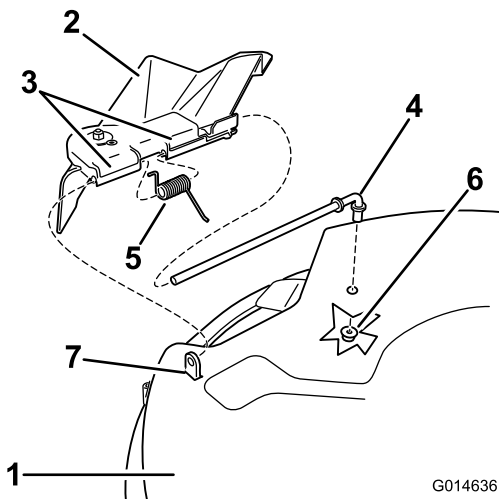

Figure 57
- Locate items shown in Figure 57.
- Remove the nut (3/8 inch) from the rod under the mower (Figure 57).
- Slide the rod out of the short stand-off, spring, and grass deflector (Figure 57). Remove the damaged or worn grass deflector.
- Replace the grass deflector (Figure 57).
- Place the spring on the rod, with end wires down, and between the grass deflector brackets. Slide rod through second grass deflector bracket (Figure 57).
- Insert rod at front of grass deflector into short stand-off on deck. Secure rear end of rod into the mower with a nut (3/8 inch) (Figure 57).